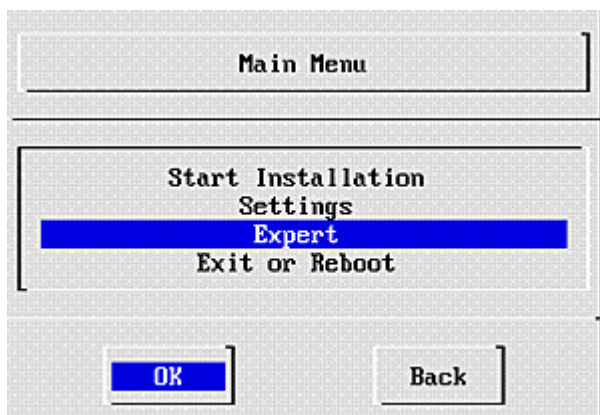

Figure C-6 Main Menu
12. The Main menu (Figure C-6) is displayed. Select **Start Installation** and click **OK**.